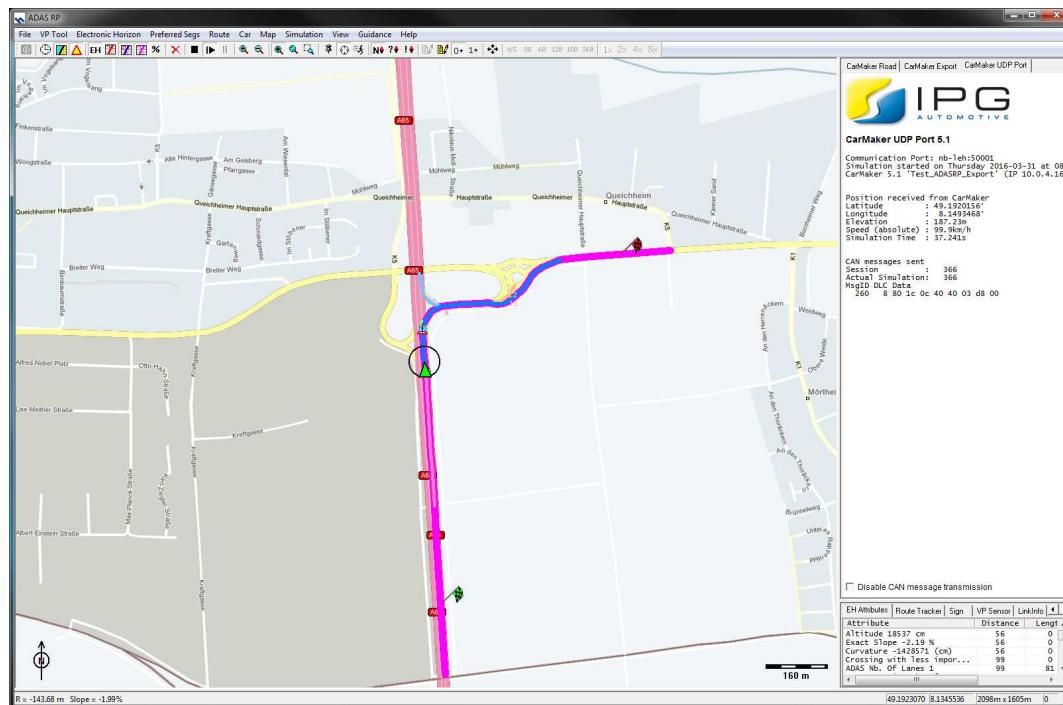

Figure 10.32: CarMaker - ADAS RP communication via UDP
In case an geo-referenced road is used (e.g. an exported ADAS RP route), CarMaker can send the vehicle position via UDP to the CarMakerCommunication plug-in (see Figure 10.32). The CarMakerCommunication plug-in will pass the vehicle position to the CarMakerSensorService plug-in. This plug-in will then provide a GPS-signal for the ADAS-RP vehicle positioning (VP) module.